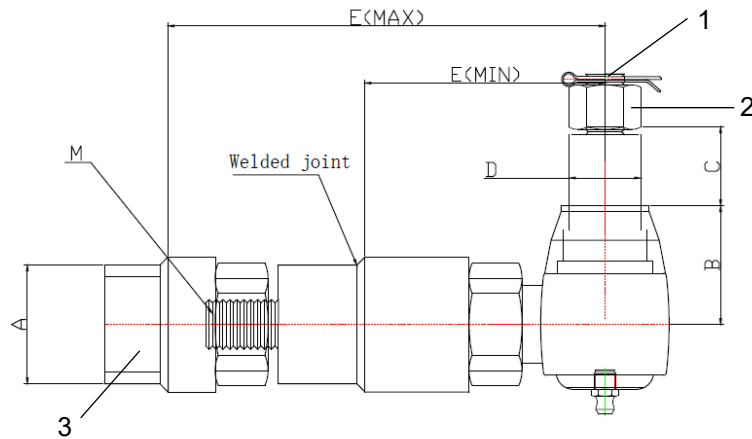

Fig.4
1. Insert ball joint (fig. 4) into straight hole at the customer crank arm (fig.3, item 1), tighten with castellated nut (fig.4, item 1) and secure castellated nut against loosening by means of a split pin (fig.4, item 2).
4. Screw both weld nuts (fig.4, item 3) on the spherical hinge up to the middle of the internal thread of the nut.